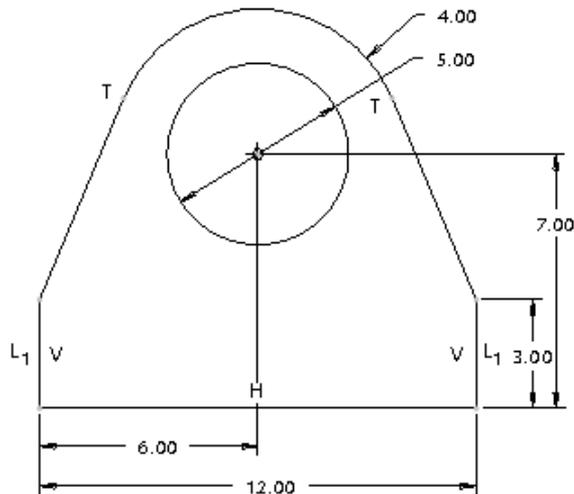

Figure 2-26 The complete sketch with dimensions and constraints
- e. Dimension the sketch and then modify the dimensions of the sketch, refer to Figure 2-26
5. Modify all dimensions according to the dimensions shown in Figure 2-26. After modifying the dimensions, choose the **Done** button from the **Modify Dimensions** dialog box; the message **Dimension modifications successfully completed** is displayed in the message area.
The completed sketch is shown in Figure 2-26.